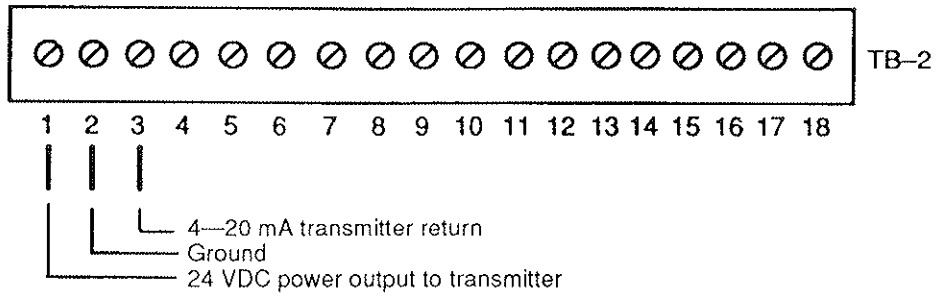

FIGURE 3
8. Connect the transmitter wires as shown in Figure 3. A two wire transmitter should be powered with the 24V DC supply from the EPC by connecting the positive wire to terminal number 1 and the other transmitter wire to terminal 3 of TB-2. Twisted pair wires can be used for connecting the transmitter to the EPC. If a shielded pair of wires is used, connect the shield to terminal 2 of TB-2.